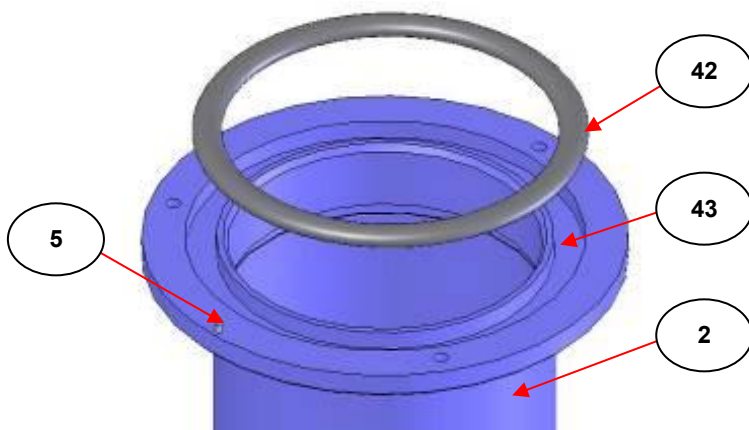

Fig 15. Vacuum Jacket Assembly Silicone O-ring for Sealing
- 5.1.** Check the silicone O-ring (**42**) that seals between the dewar/cell holder assembly (from P/N GS21525) or dewar/cuvette holder assembly (of P/N GS21530) and the vacuum jacket assembly. (See Fig 15.) Clean it and check the groove (**43**) in the vacuum jacket assembly for foreign matter. Lightly smear silicone/vacuum grease on the O-ring (**42**) and replace in its retaining groove (**43**).